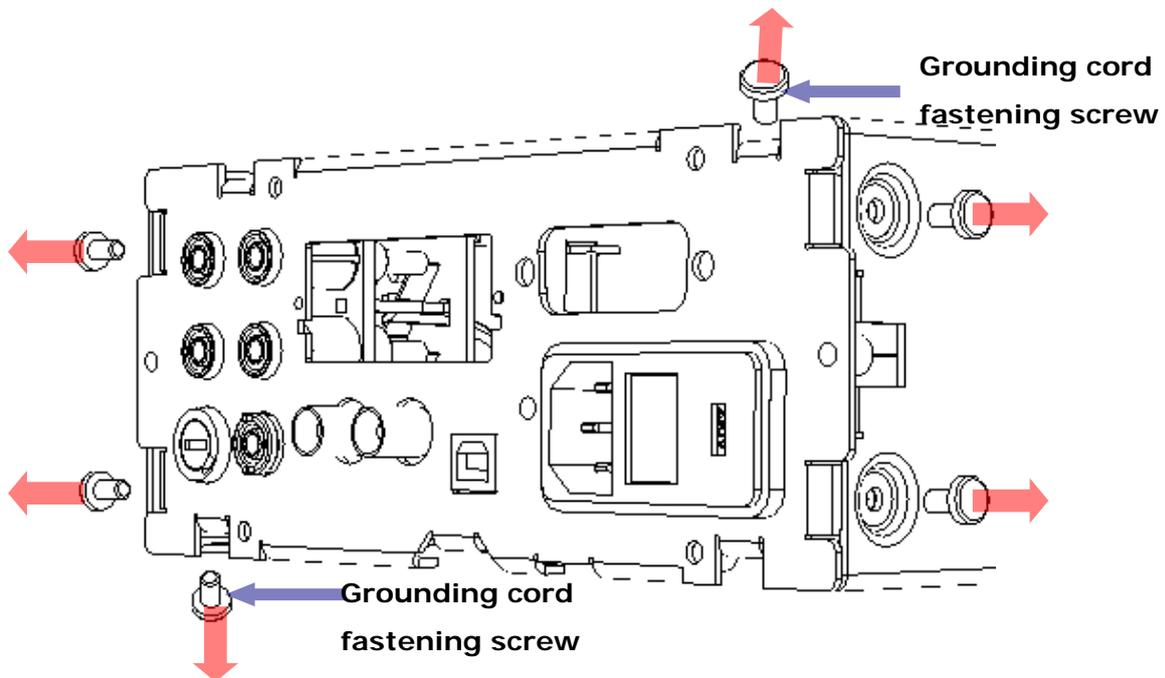

Figure 4-10
- Remove the six screws as shown in **Figure 4-10**.
Warning! Two grounding cords that connect between the rear panel and the left and right chassis are fastened by the screws pointed by blue arrows in **Figure 4-10**. Make sure the connections are correct when you re-install the rear panel.